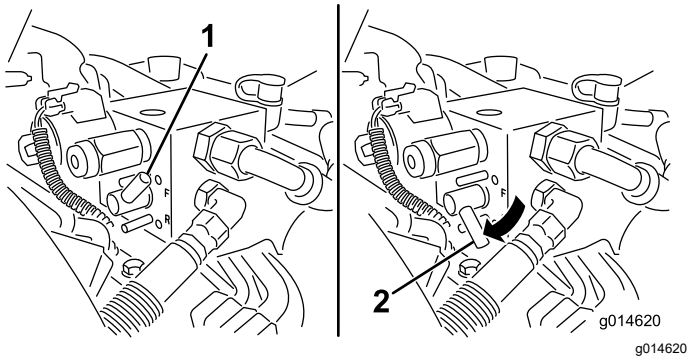

Figure 59
5. Rotate the backlap lever to the REVERSE (R) position (Figure 59).